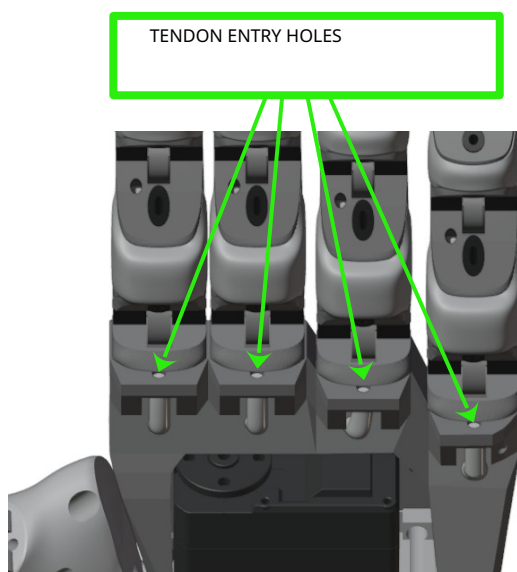
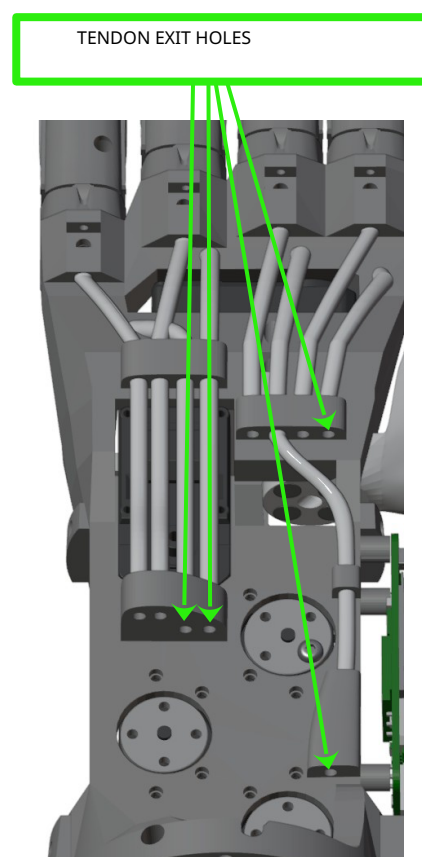
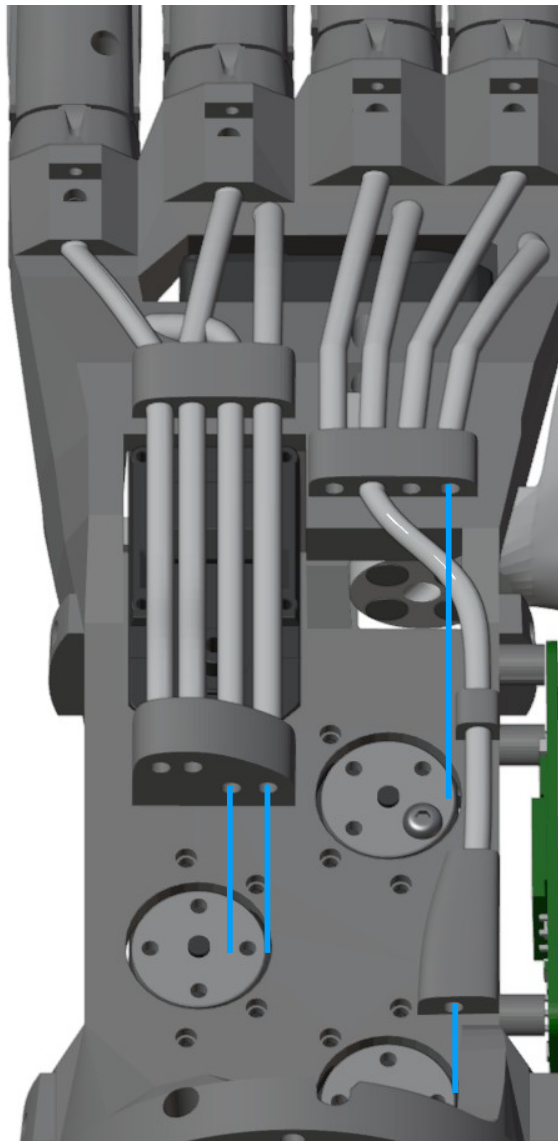

Figure 5.43: Tendon entry holes
Figure 5.42: Tendon exit holes
Figure 5.44: Flexion end-point of the tendons exiting the bowden tubes
1. On the front of the skeleton, insert the two ends of the nylon needle into the entry hole in front of the finger slot (figure 5.43) and push them into the PTFE tube below, making them come out of the exit hole on the back of the skeleton (figure 5.42)
2. Insert the end of the flexion tendon into the loop of the nylon needle left outside the entry hole (figure 5.43) and pull the ends of the nylon needle from the other end of the bowden tube, until the entire tendon comes out of the exit hole (figure 5.44).